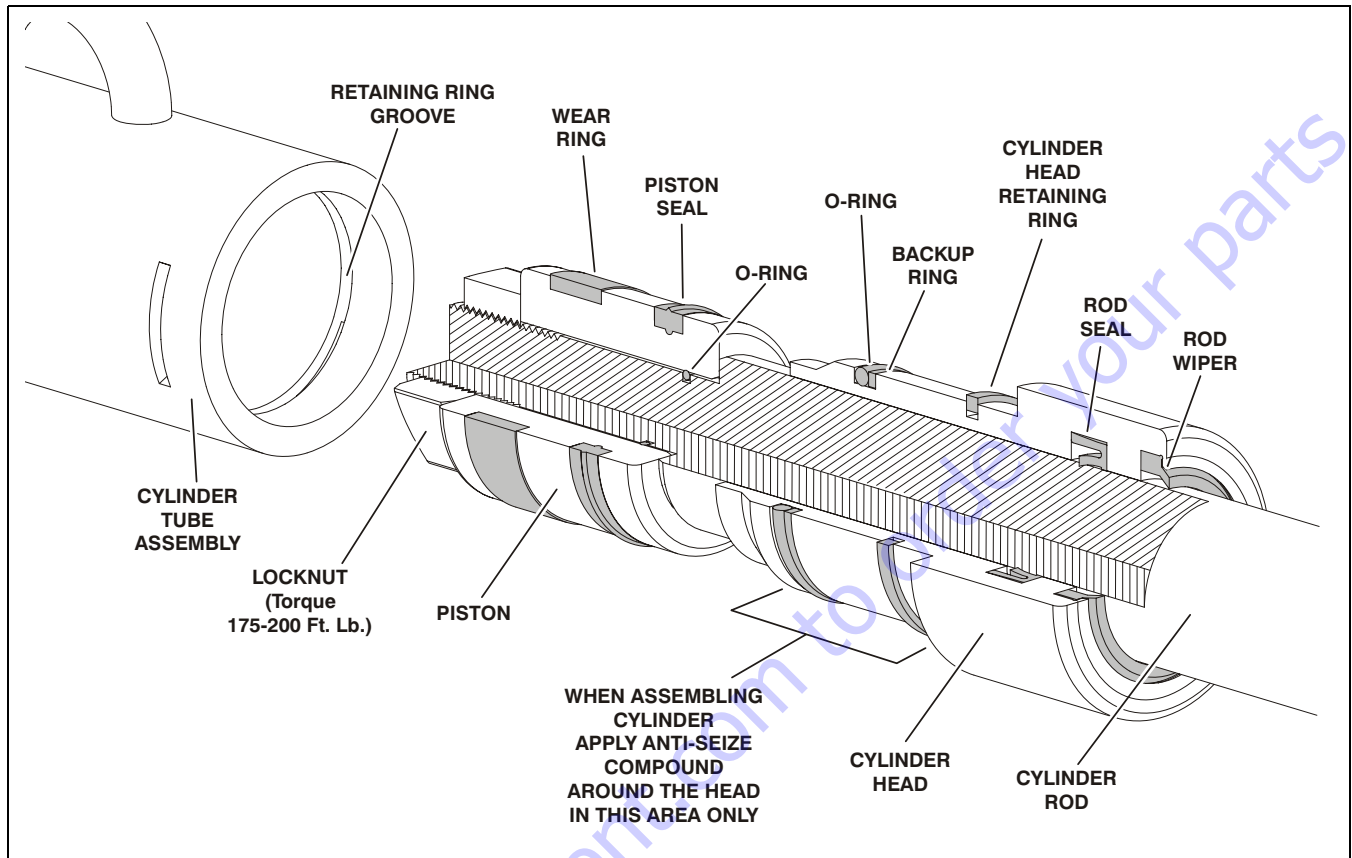

Figure 2-1. Lift Cylinder Internal Component Assembly Cross-Section.
(See Figure 2-1.)
1. Place mast section-1, rail (open) side up (See Figure 2-1.) on a clean, flat surface (preferably a table or work bench capable of supporting the weight of the entire mast assembly). Slide mast out over end of work surface far enough to allow access to the chain anchor attach holes at top of mast.
2. Locate the two (2) single (wide) chain assemblies. Lay out each chain assembly with anchor block end towards mast, and notched end of block down, (be certain floor surface is clean and free of any metal chips or debris which may stick to lubricated chains or lay chains in a clean bucket).
3. Insert the block anchor end (with notched end on bottom) into the top of mast section-1 and secure using two (2) 3/8"-16UNC x 2-1/2" long hex head bolts, flatwashers and nuts for each attach block. Place a flatwasher under bolt head and nut.